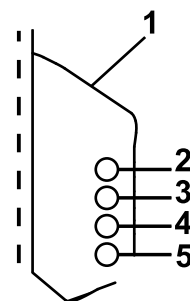

Figure 15
6. Adjust anti-scalp rollers for normal operating conditions. Place rollers in one of the positions shown in Figure 15. Rollers will maintain 19 mm (3/4 inches) clearance to the ground to minimize gouging and roller wear or damage.